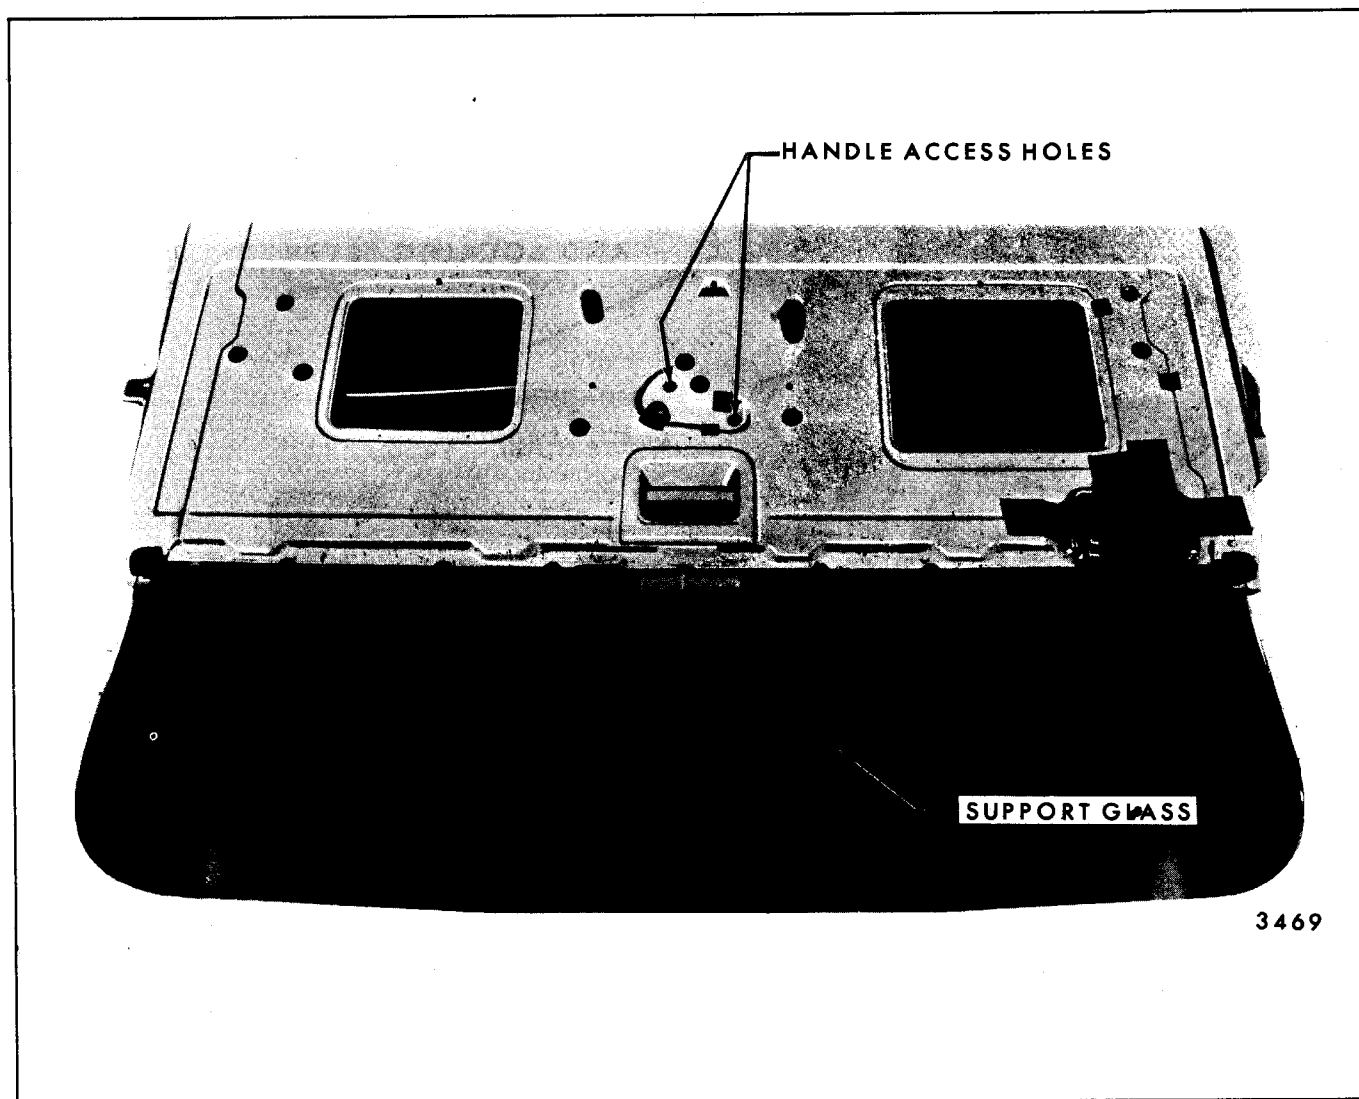

Fig. 9-39-Tail Gate Window Outside Handle Removal
3. Position tail gate window so that outside handle (manual) attaching nuts are accessible through gate inner panel and window regulator access holes (Fig. 9-39).